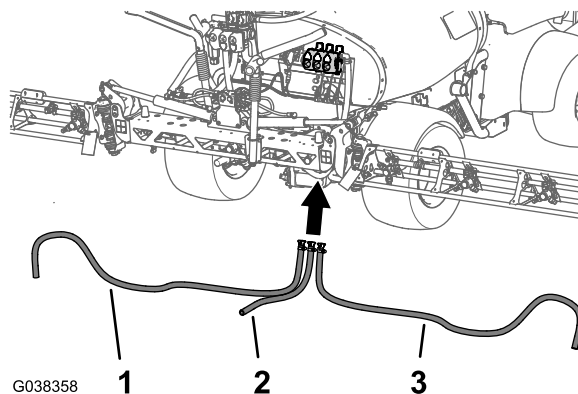

Figure 79
1. Route the left, center, and right boom-supply hoses to the boom-section valves as shown in Figure 79.